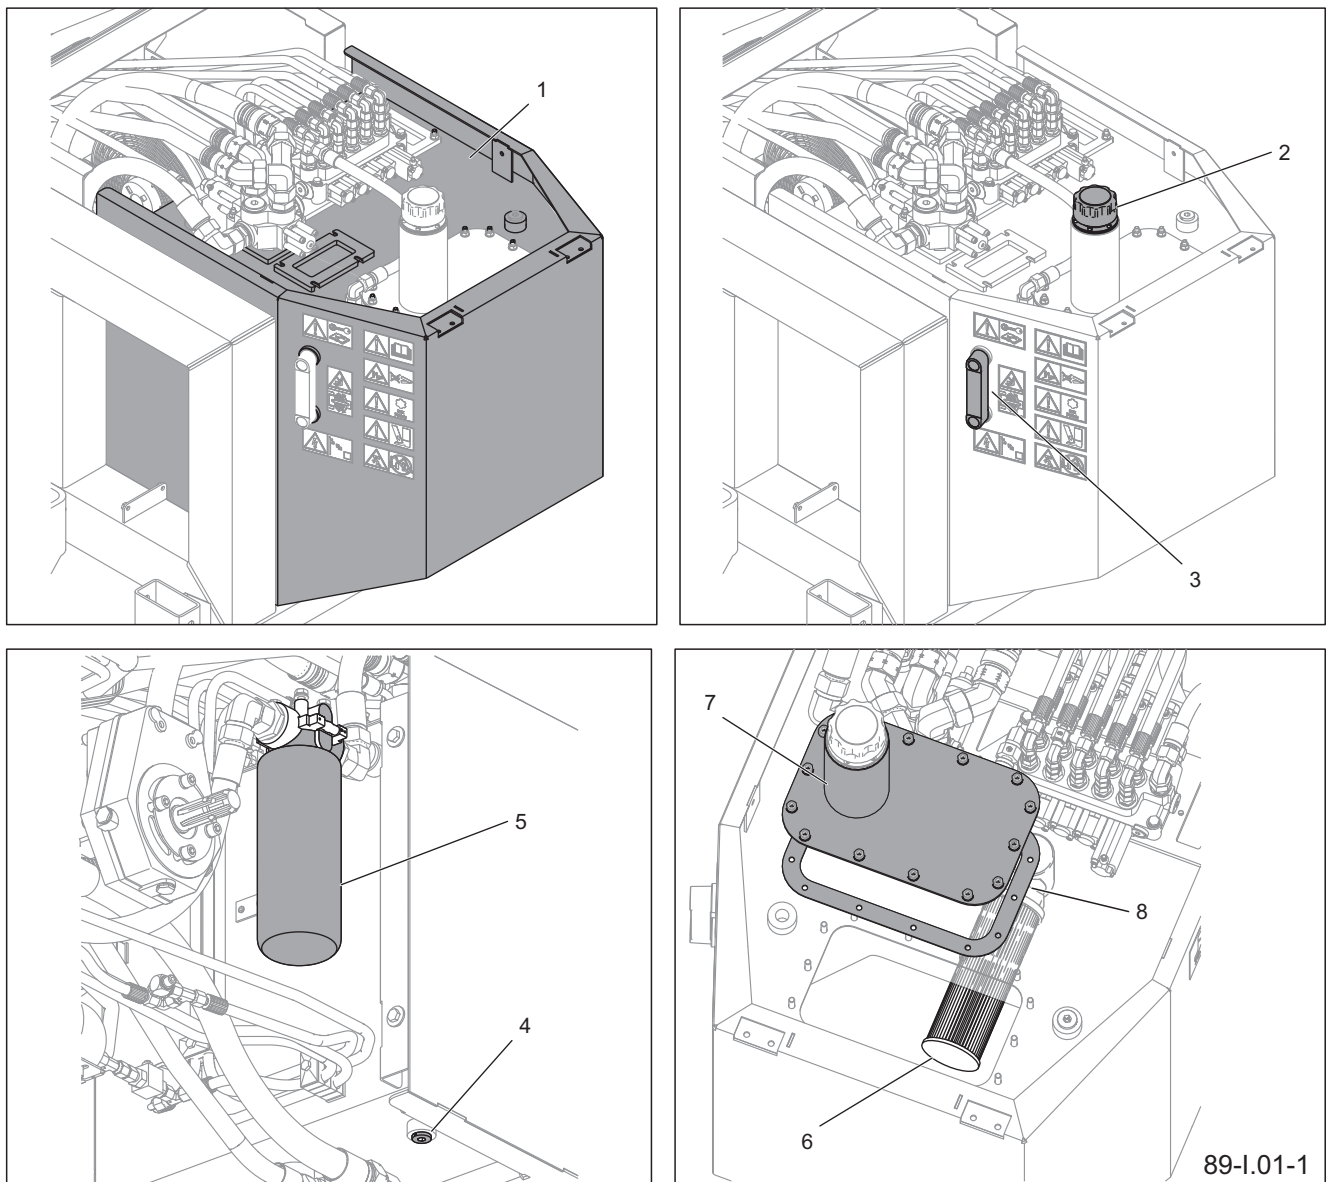

Figure 5.1 Oil tank
The oil tank (1) (FIGURE 5.1) holds 240 l of hydraulic oil type HL46. Check tank welded joints and hydraulic hoses for leaks every day.